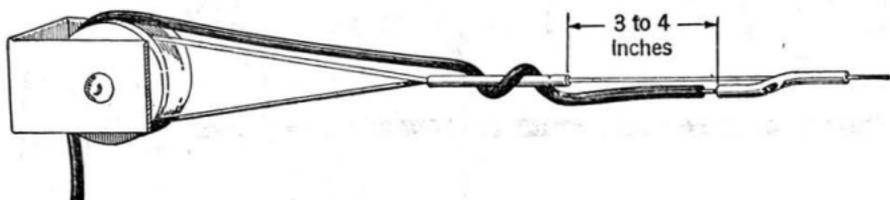
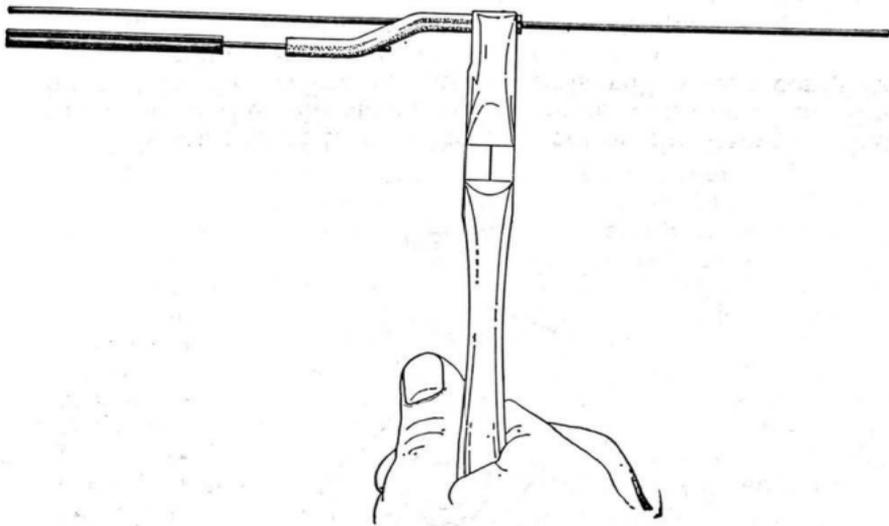

FIG. 2
FIG. 8
3.01 Run the bridle wire on the pole or crossarm in the usual manner. Provide enough bridle wire to reach beyond the dead end or insulator tie, as shown in Figs. 2, 3, and 4.
- (4) Roll the sleeve until the rolls reach the offset portion of the sleeve, then reverse the Ratchet Reversing Latch and roll the tool back off the sleeve. If an aluminum bridging sleeve is being used, a single rolling may leave a sharp fin on the sleeve. To remove this sharp fin, roll aluminum bridging sleeves a second time, with the sleeve entering the rolls about 90° away from the original rolling position.
- (5) Wrap the bridle wire around the line wire as shown in Figs. 2, 3, and 4. Clean the line wire thoroughly with standard abrasive cloth. Place the split sleeve on the line wire.
- (6) Close the split end of the sleeve down on the line wire throughout its length, by pressing with side cutting pliers as shown in Fig. 8.
(4) Wrap the bridle wire around the line wire as shown in Figs. 2, 3, and 4. Clean the line wire thoroughly with standard abrasive cloth. Place the split sleeve on the line wire, and close the split end of the sleeve down on the line wire throughout its length by pressing with side cutting pliers as shown in Fig. 8.
(5) Make a minimum of 8 presses with the Q groove of the 31-QC Nicopress Tool, starting at the inner end of the split portion and working toward the outer end with adjacent presses overlapping slightly so as to result in a complete closure of the seam. When making the last press the side of the presser jaws should extend slightly beyond the end of the sleeve. The pressing tool shall be positioned on the split sleeve so the seam will coincide with one of the fins formed in the pressing operation. This also is necessary to insure complete closure of the seam. With the 165 x 064 B Copper Bridging Sleeve use the J groove of the 51-JE Nicopress Tool making a minimum of 8 presses. No attempt should be made to remove the fin by pressing a second time.
(6) With the 104 x 104 B Copper Bridging Sleeves and 109 x 109 B Aluminum Bridging Sleeves the number of presses should be the same on the solid end of the sleeve as on the split end.